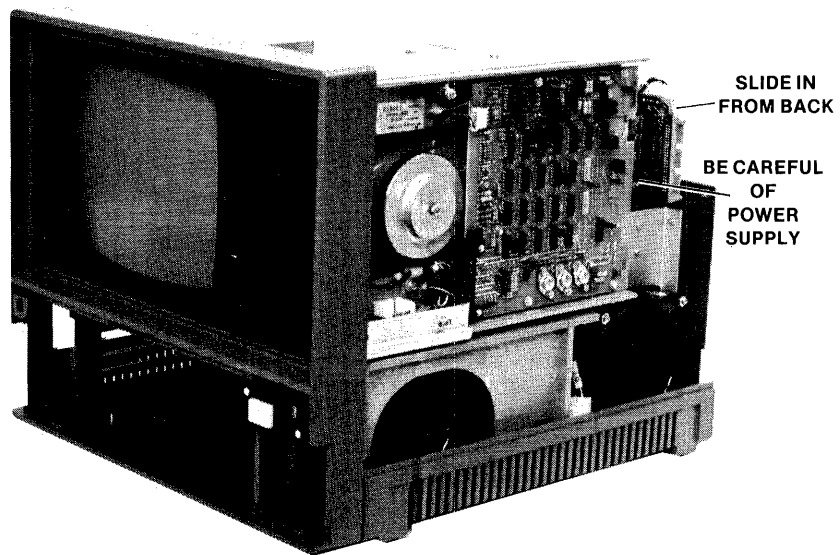

Fig. 4-14 Inserting Diskette Drive
8. Slide the disk unit into place from the back of the chassis. Be careful not damage the power supply board. See Figure 4-14.